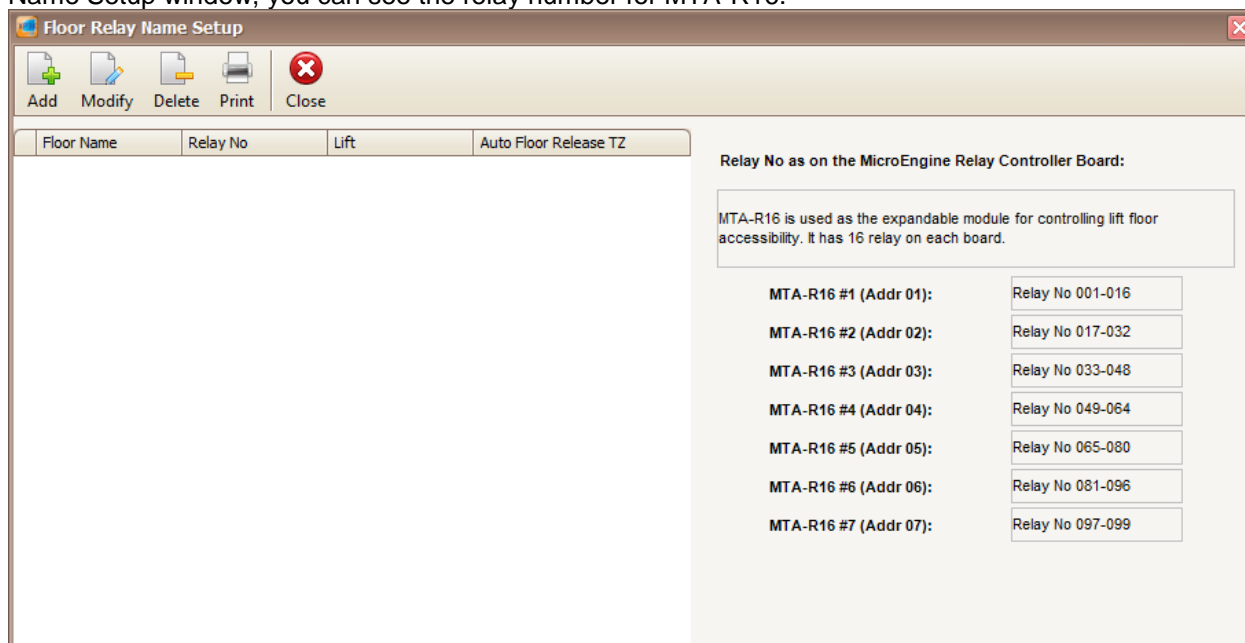

Figure 140 - Floor Relay Name Setup
2. The following window will be shown (Refer **Figure 140**). On the right side of the Floor Relay Name Setup window, you can see the relay number for MTA-R16.